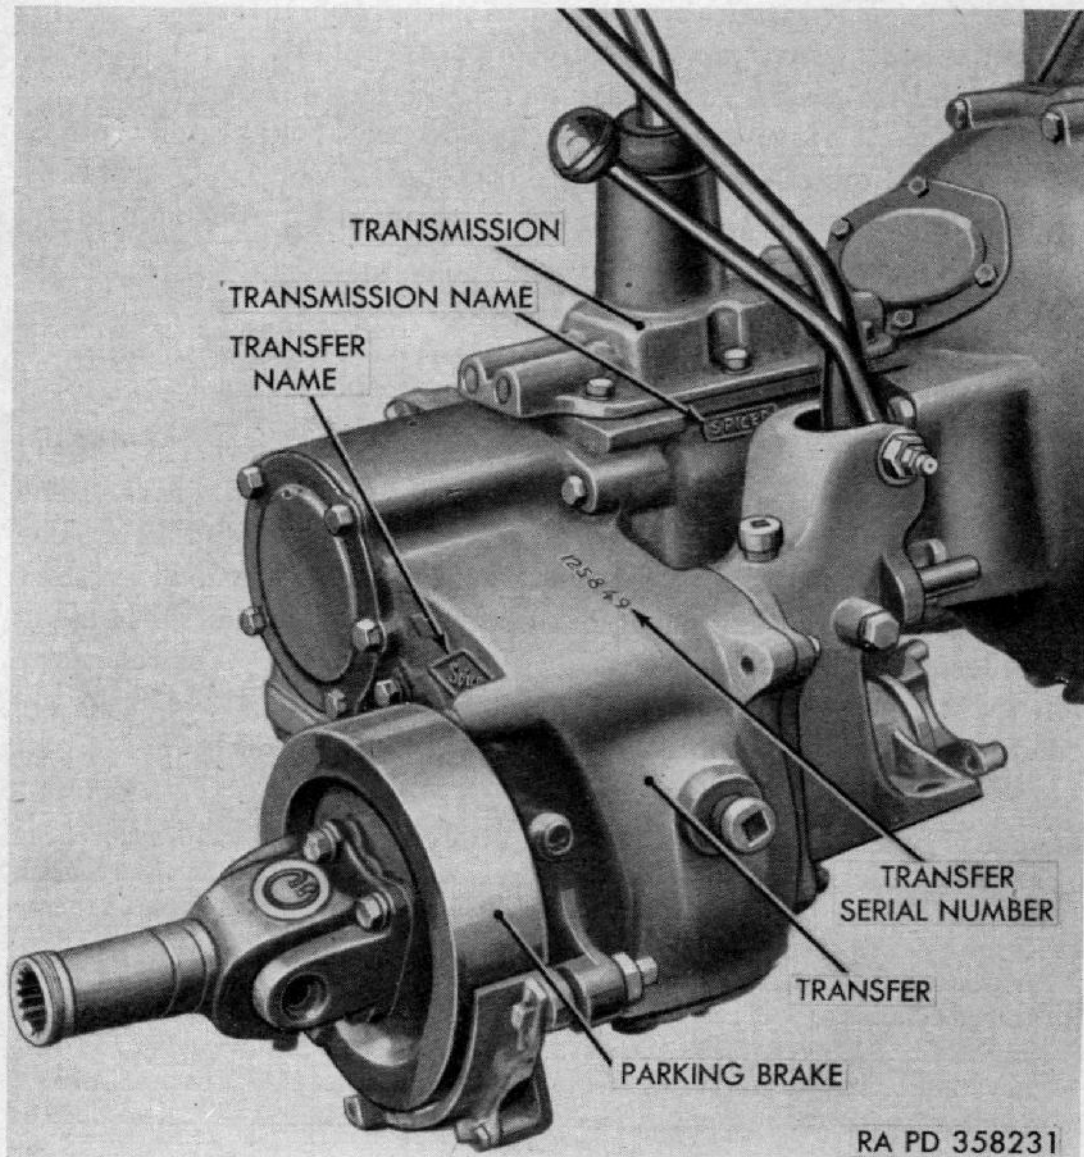

Figure 96. Transmission and transfer installed.
a. *Description.* The transmission (fig. 96) is a selective, three speed gear box with a synchronized second and high speed gears. The transmission is removed as part of the power plant (fig. 42). The gears within the transmission are shifted by a transmission gearshift lever (figs. 6 and 7) extending out of the top of the control housing and is located in the vehicle to the right of the driver. The transmission transmits the power of the engine, through the transfer to the front and rear axle assemblies.
*c. Remove Transmission and Transfer.* The transmission and transfer (fig. 96) should be separated from the flywheel housing and removed as a unit. Remove the inspection cover from the top of the flywheel housing by removing two cap screws and lock washers. Remove inspection cover gasket. Reach through inspection opening, disengage clutch release fork from release bearing and stud, and remove clutch release fork. Remove the four cap screws and lock washers, attaching the transmission to the flywheel housing. Slide transmission back carefully to clear flywheel housing of the clutch shaft. Remove transmission gasket.
*a. Description.* The transfer (fig. 96) is an auxiliary gear unit attached to the rear of the transmission. It is essentially, in effect, a two speed auxiliary transmission providing an additional gear reduction for any selection of the transmission gears and is also a means of engaging and disengaging power to the front axle. Shifting of the transfer is accomplished by two transfer shift levers located to the right of the transmission gearshift lever (fig. 6). Use of the transfer shift levers are explained in paragraph 41. An opening at the rear of the transfer is provided for mounting a power take-off. The parking brake (fig. 96) is mounted at the rear of the transfer on the rear axle output shaft.